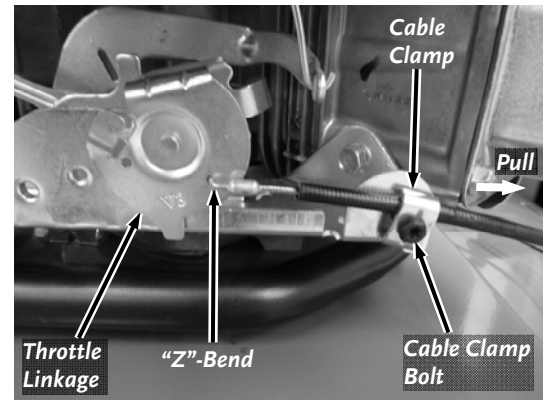

Figure 13
3. Insert the "Z"-Bend of the Cable end into the bottom hole in the Throttle Pivot linkage on the back of the Engine (**Figure 13**).